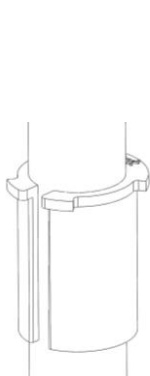

Fig. 2.3
- i. Slip rubber sleeve around the vertical frame post or GTU adapter, turning the rubber sleeve so the opening faces away from the generator. (Fig. 2.3 or 1.3) Select installations may not allow the rubber sleeve mouth face outward, this is Ok.